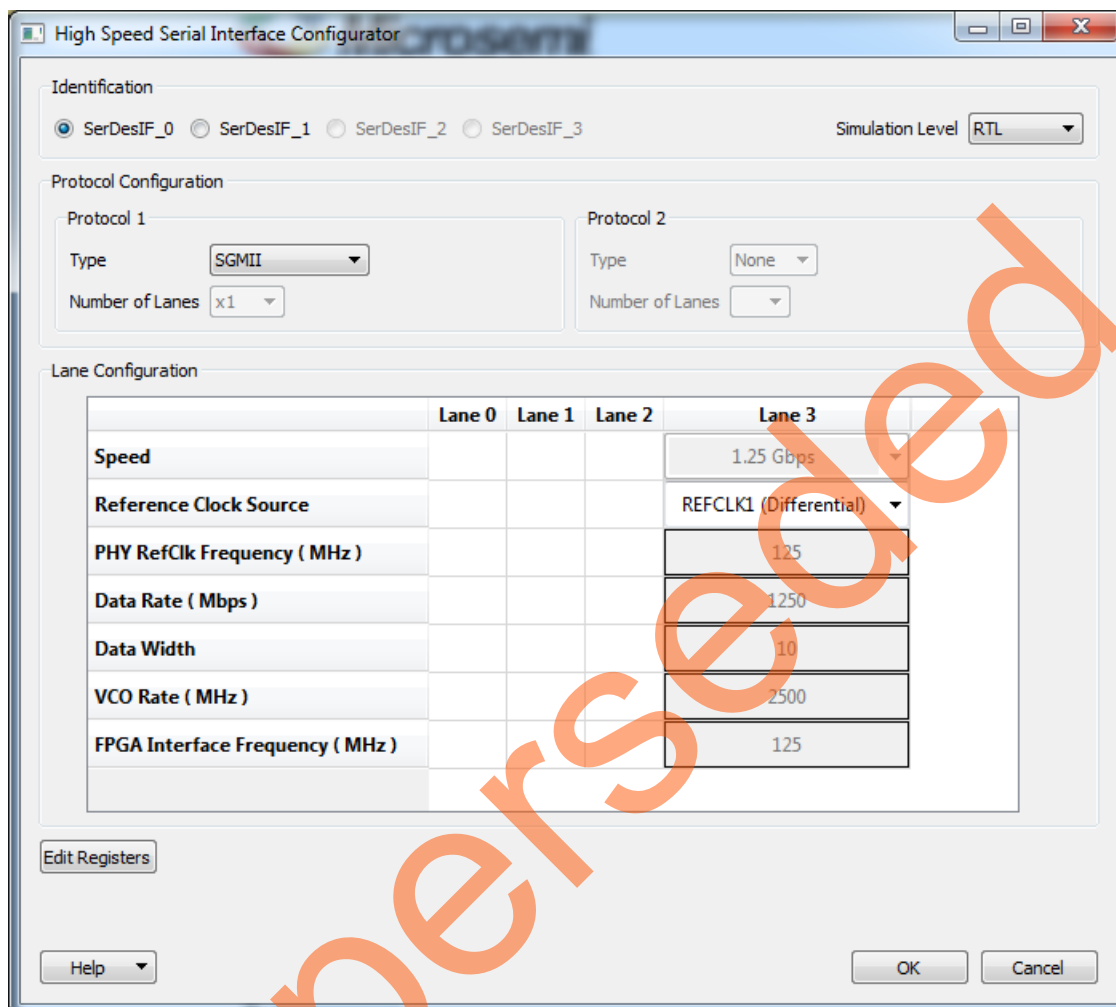

Figure 5 • High Speed Serial Interface Configurator Window
5. High speed serial interface (SERDESIF) **SERDES_IF** IP, configured for **SERDESIF_0** SGMII lane3 as shown in Figure 5.